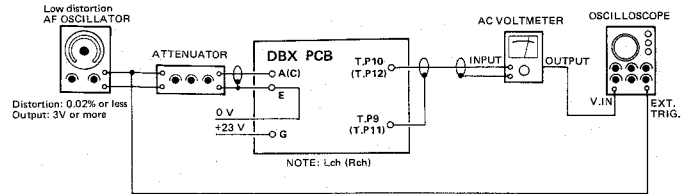

Fig. 5-14 Connections for ENCODER adjustment (1)
2. Make the Fig. 5-14 connections, then feed 100 Hz, -8 dB (308 mV) to A/C (INPUT) terminal.